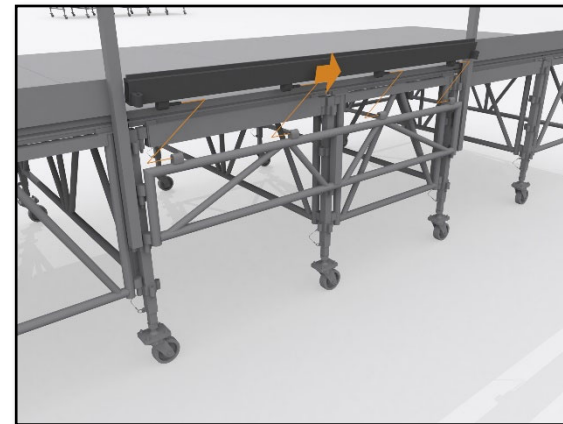

Fig. 41 – Primary Beam Type One
- 9.5.7 Insert the connections of Primary Beam Type One into the Interface Bracket holes. *Fig. 41 – Primary Beam Type One*